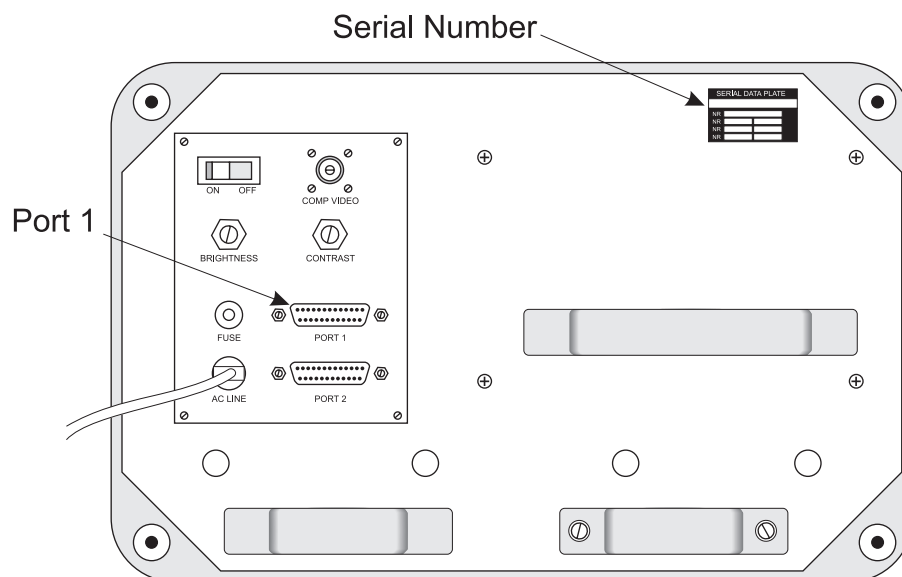

Figure 5-1
- Connect the dedicated data cord from the P190 programmer to the PLC Port 1. See *Figure 5-1*.